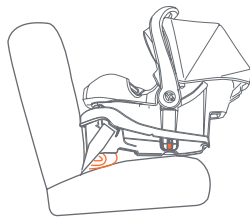
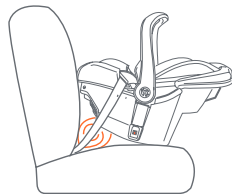

Fig. 53-1
Fig. 53-2
- If the Seat Angle Indicator level line is not parallel with the ground, or the bubble is not centered, place a rolled towel, folded towel or pool noodle under the front of the base (Fig. 53-1), or at the foot end of carriers (Fig. 53-2), to achieve the correct position.